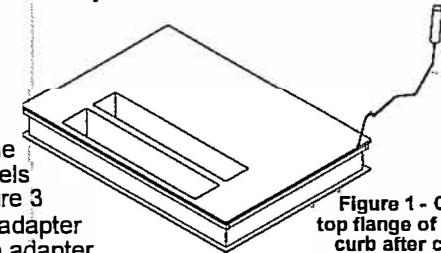

Figure 1 - Caulking top flange of existing curb after cleaning.
3. Apply new caulking material (supplied by others) to the top of the existing curb. See Figure 1.